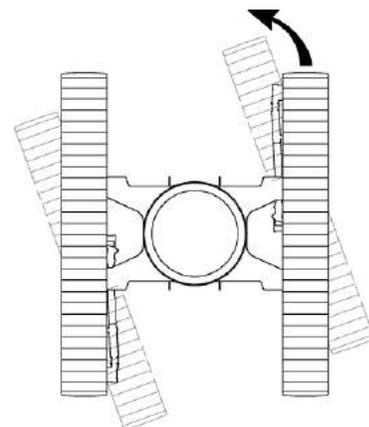

Figure 3-28. Travel Left (sharp turn)
9. To make a SHARP LEFT TURN (Figure 3-28), move the right crawler control handle forward from the neutral position and leave the left crawler control handle in the neutral position. The crane will pivot about the left crawler.